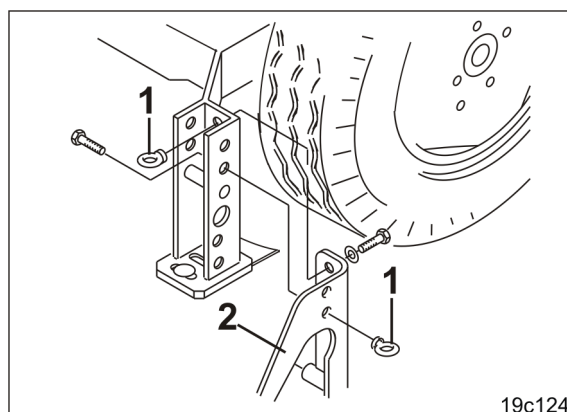

Fig. 183
- 1.1 Unscrew two eye nuts (Fig. 183/1).
- 1.2 Remove the wheel mark eradicator (Fig. 183/2).